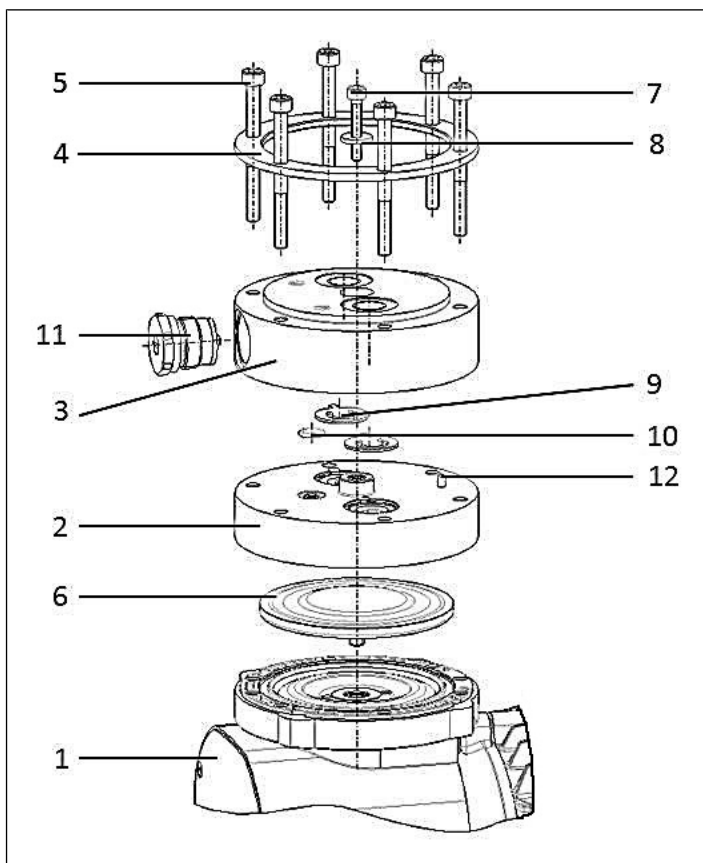
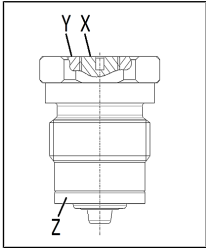

Fig.9: Pump parts N922FT.29E EX
Fig.10: Adjusting valve
**According to Fig. 9
i The item numbers within the following work instruction refer to Fig. 9.
- i** The item numbers within the following work instruction refer to Fig. 9.
4. Use a wrench to unscrew the adjusting valve (11) out of the head counterclockwise.
5. Screw the new adjusting valve (11) into the head and tighten (tightening torque: 450 Ncm).
- i** The adjusting valve (11) is preset ex works to a defined value. No changes may therefore be made to the adjusting valve before it is mounted on the head.
- Should deviations or discrepancies nevertheless occur, the following is to be observed according to Fig. 10:
1. Threaded part (Y) and adjustment screw (X) must be flush for mounting.
2. The valve diaphragm (Z) must be fully screwed in but must not be overtightened.